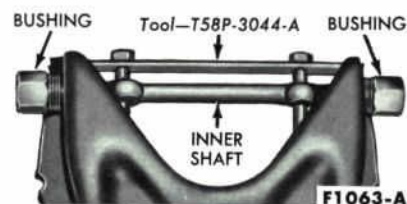

FIG. 86—Upper Arm Inner Shaft Bushing Installation
3. Lubricate the new bushings. Install the bushings and inner shaft so that the inner shaft is exactly centered in the arm. Use the tool shown in Fig. 86 for centering the shaft in the arm, and position the bushings carefully to avoid damaging the O-rings inside the bushings. Torque the bushings to specifications, then remove the centering tool.